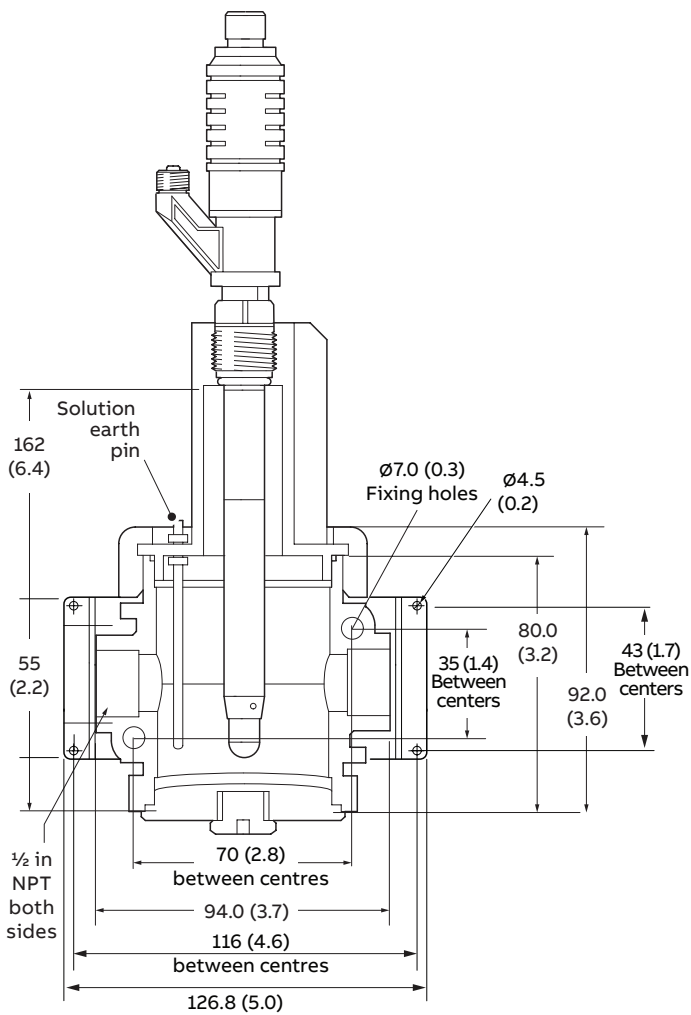

Figure 3 Flow chamber dimensions
- 1 Insert sensor (A) into flow chamber (B) and screw into place until hand-tight, ensuring to orientate the side arm (E) towards the reservoir.
- 2 Make process connections both sides (C) and (D) of flow chamber (B) using $\frac{1}{2}$ in NPT connectors (not supplied).
- 3 If process is below $10 \mu\text{S}$ ground the solution earth pin – see Figure 3.